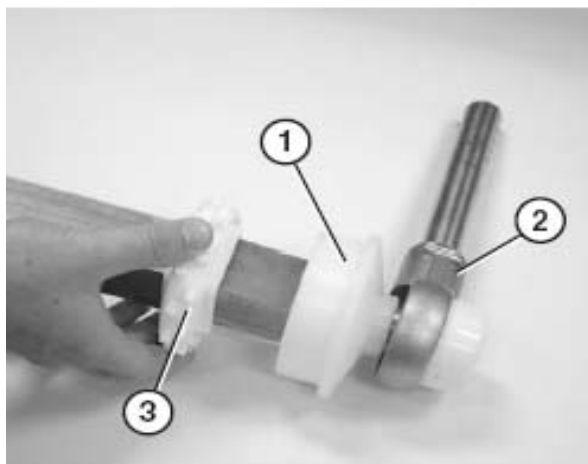

Figure 81
1. Attach a flanged puck (**Figure 81, item 1**) and bearing shaft assembly (**Figure 81, item 2**) to the shorter end of the drive spindle.
2. Slide the first sprocket (**Figure 81, item 3**) onto the drive spindle.